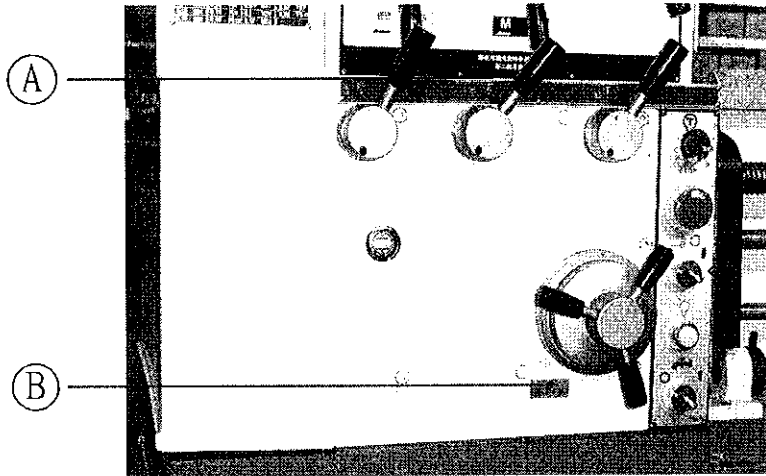

Fig. 6-3
2. Drain hole: On the left bottom side of the 10-step feed selection dial. The screw with hexagon nut is the oil drain hole as arrow ② shown on figure 6-3.